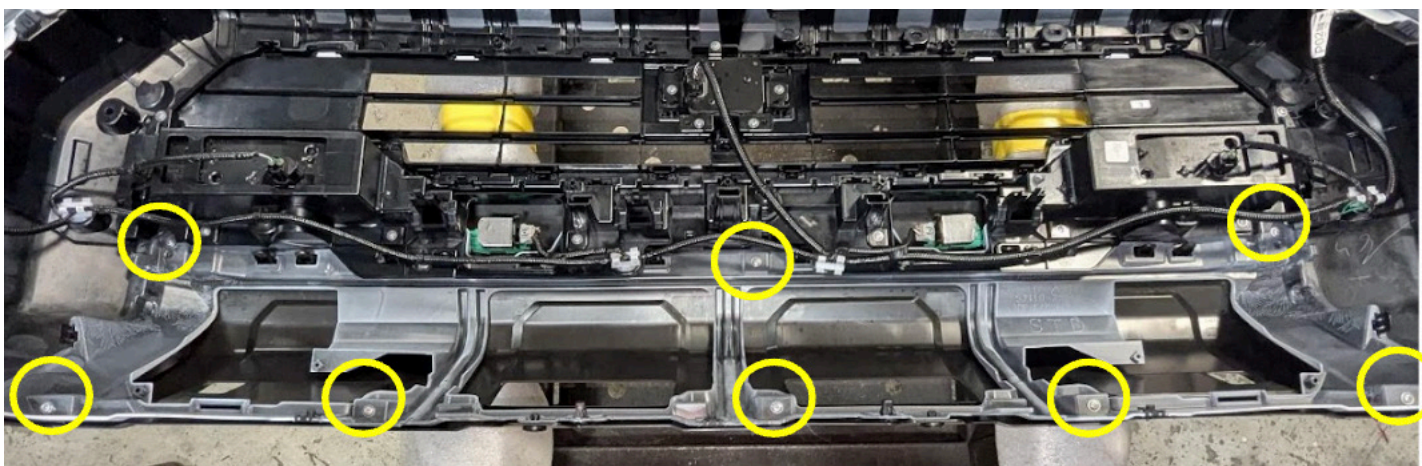

Figure 28
20. Using a Phillips-head screwdriver, remove the eight (8) screws across the inside of the fascia. (Figure 28)